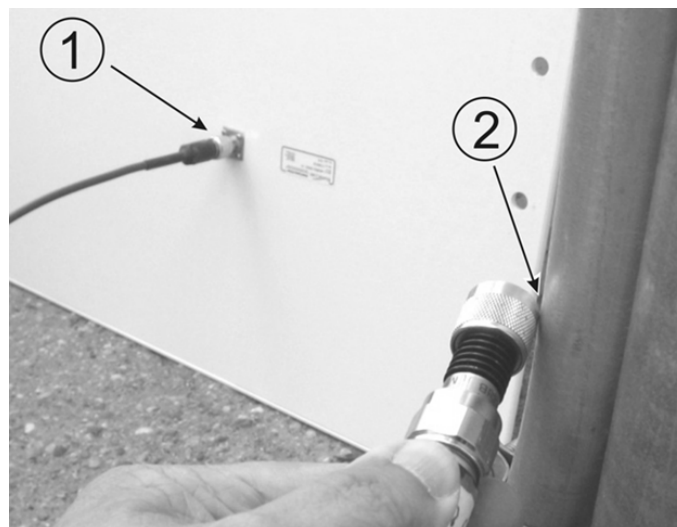

Figure 9 Short Load to Earth Ground
2. Connect the grounding RF cable to the antenna (Item 1 in Figure 9).
3. Short the outer metal case of the load or attenuator to Earth Ground for approximately 10 seconds (Item 2 in Figure 9). In this example, the operator is using the mounting pole that has been properly connected to Earth Ground.